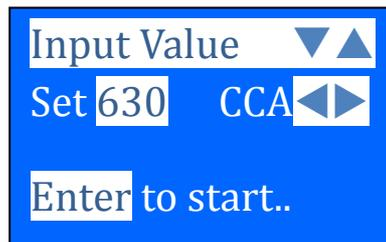

Figure 21
Press  key and the display will show: (Fig.21) below:
12. To enter the value 630, press  key will increase the original value of 500 (Fig.21) by step of 100 units to 600. Likewise use  key to increase the last two digits (00) to 30 by step of 5 units for each pressing. (Fig. 22)